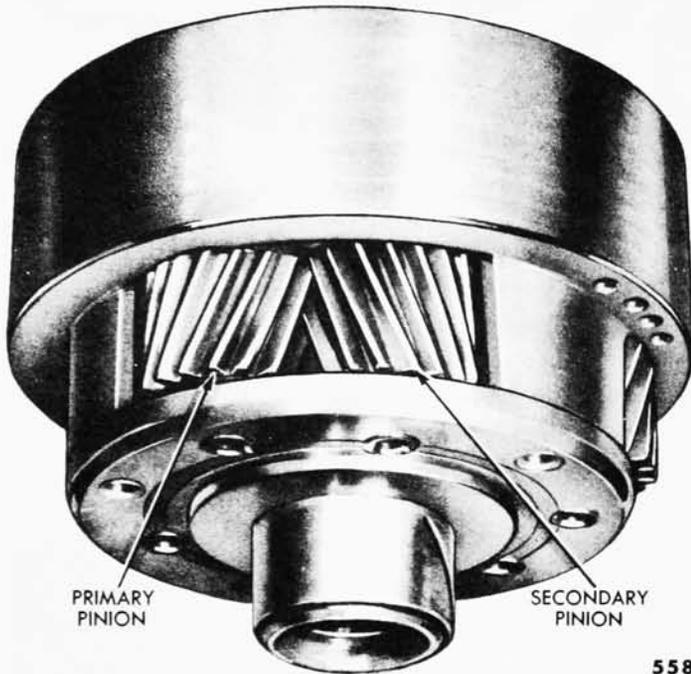

Fig. 7—Pinion Carrier Assembly
(4) **PINION CARRIER AND PLANETARY PINIONS.** Pinion carrier assemblies previously used contained primary pinions with 16 teeth and secondary pinions with 17 teeth. The new primary and secondary pinions each have 18 teeth. A bronze bushing is pressed on the pinion carrier pilot (fig. 7). The inside diameter of the selective thrust washer, located between the pinion carrier and the forward end of the output shaft, has been increased to fit around the bronze bushing on the new pinion carrier pilot.